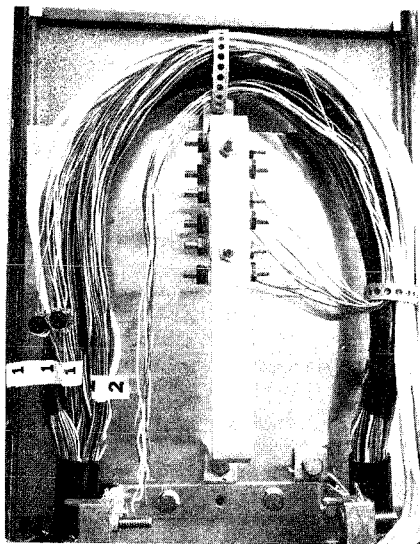

Fig. 11—Terminal Block Wire Leads connected to the Cable Conductors
(4) The UG connectors should not be located any closer than 8 inches to the cable sheath as shown in Fig. 11. **DO NOT CUT THE CABLE CONDUCTORS.**